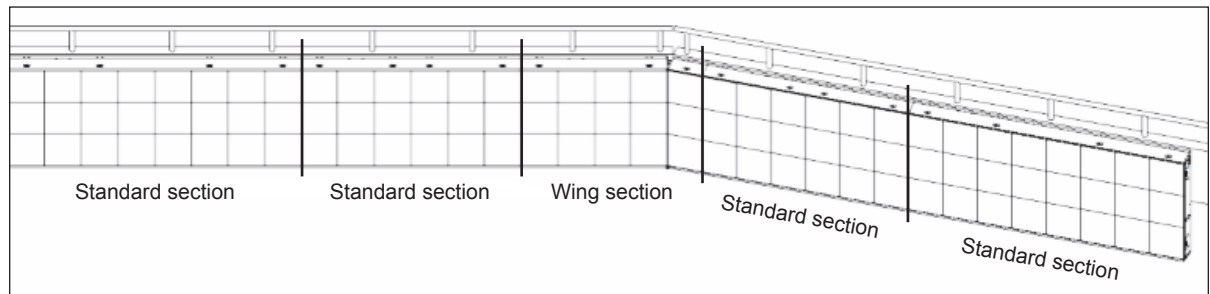

**Figure 20: Conduit & Clip**
3. Attach one plastic conduit clip at least 2" from one end of the conduit. Refer to **Figure 20**.
8. Ensure at least 2" of conduit extends into both sections. Trim any excess conduit from the inside of the section. Refer to **Figure 20**.